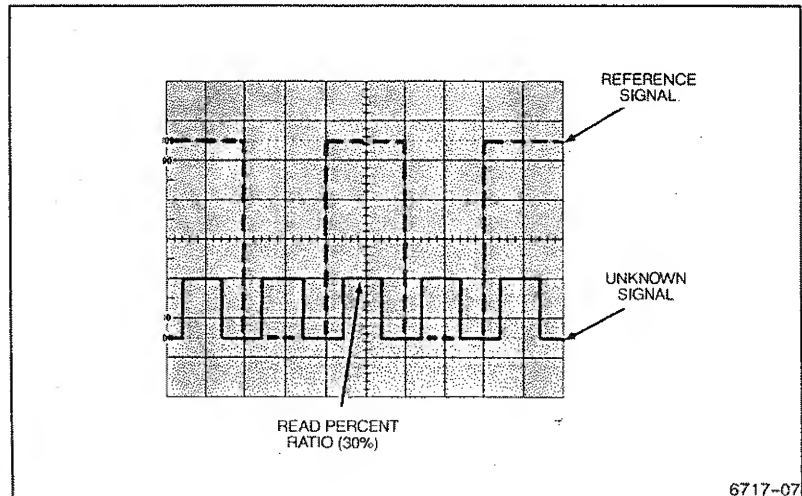

Figure 3-4. Determining voltage ratio.
4. Horizontally position the waveform so that its topmost features cross the center vertical graticule line (see Figure 3-4).